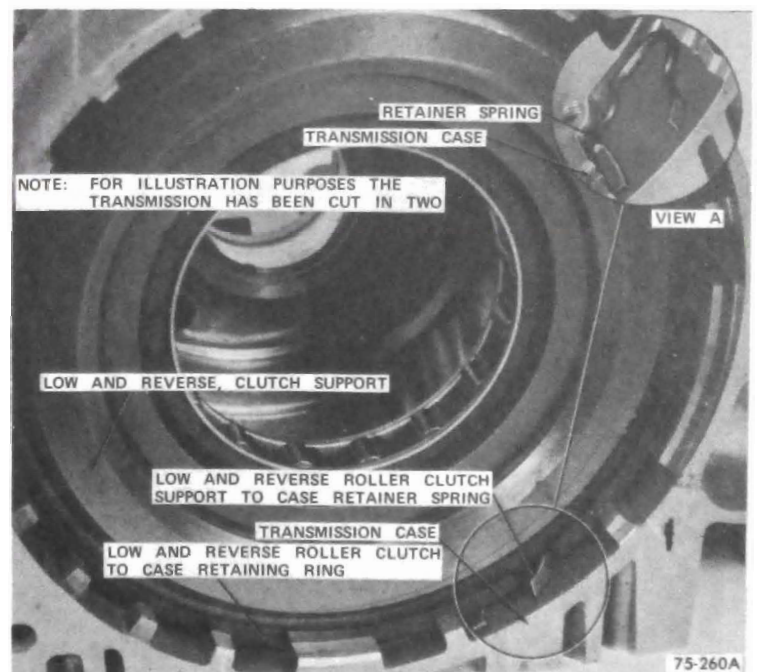

Figure 75-233
2. Install low and reverse clutch support retainer spring. See Figure 75-233.
4. Install low and reverse clutch support to case retaining ring. See Figure 75-233.